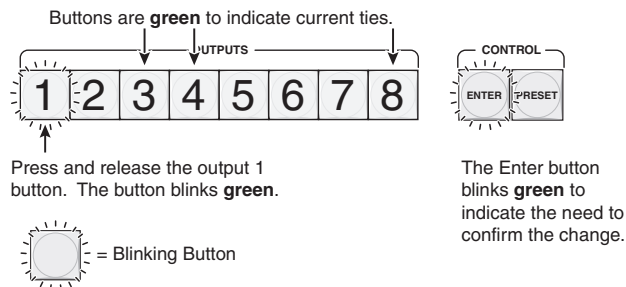

Figure 3-11 — Select a new input
2. Press and release the output 1 button (figure 3-11).